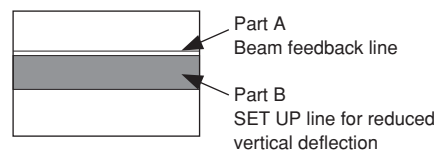

Fig. 4-6-2. SETUP ON State
To stabilize the black level over a long period of time, this monitor adopts the beam feedback clamp method which detects beam currents to perform clamping. Therefore one line (Part A in Fig. 4-6-2) is displayed on the CRT.
If the BACKGROUND is lowered so that Part B in Fig. 4-6-2 becomes invisible, the line at Part A disappears, disabling the detection of the beam current.
- Set the **SET UP** switch in the drawer panel to ON, and set as shown in Fig. 4-6-2.